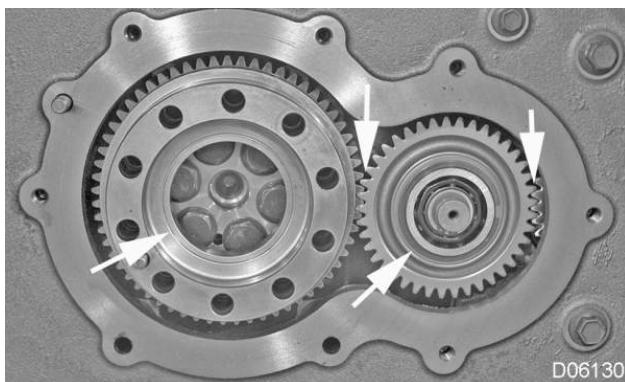

Figure 36 Verify Witness Marks Facing Out and All Gears Are Aligned
37. Verify witness marks on the idler gear and secondary flange gear are facing the transmission end of the engine, and the gears are all aligned (Figure 36).